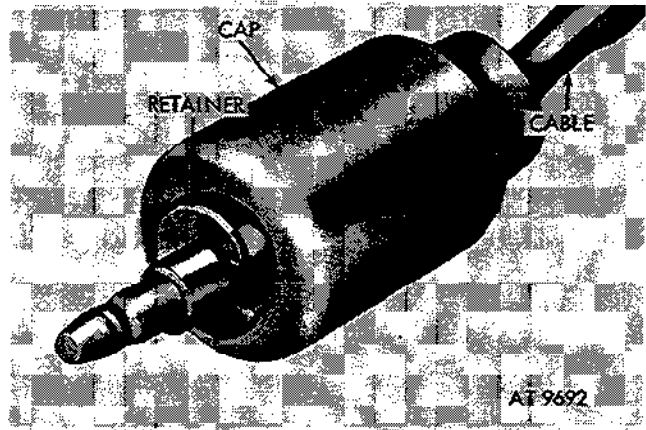

Figure 2-224. Remove retainer and cap from cable.
(2) Pull C-type retainer washer off cable (fig. 2-224).
(3) Slide rubber cap off cable, exposing terminal for repair (fig. 2-224).